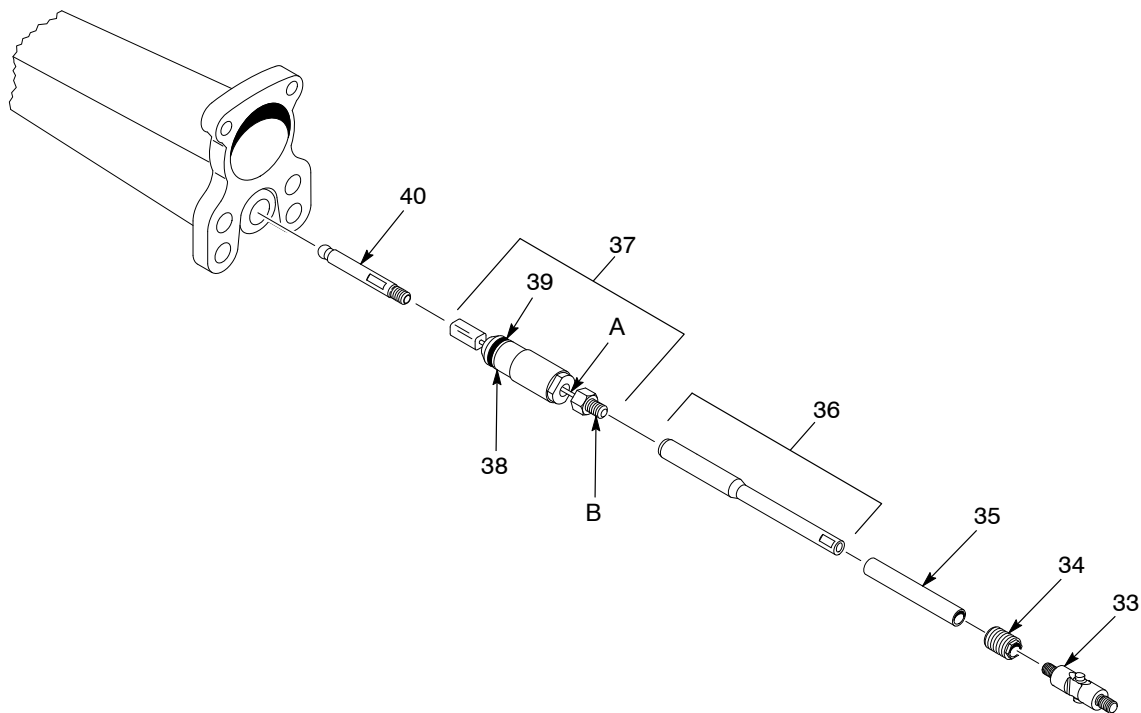

Figure 7-5 Ball Tip and Packing Cartridge Replacement
1. See Figure 7-5. Holding the flats on the pull shaft (36), unscrew the puller link (33).
2. Push the pull shaft forward and unscrew the packing cartridge retainer (34) with the combination tool.
3. Pull the pull shaft out of the back of the extension to remove the pull shaft, packing cartridge (37), and sleeve retainer (35). Do not bend the packing cartridge wire (A).
1. See Figure 7-5. Apply a removable threadlocking adhesive to the threads of the puller fitting (B) and pull shaft (36).
2. Screw the pull shaft into the packing cartridge (37).
4. Apply thin coating of dielectric grease to the outside of the sleeve retainer then slide the sleeve retainer (35) over the pull shaft and push down over the fluid bores.
5. Generously lubricate the end of the pull shaft and the inside of the packing cartridge retainer (34) with MagnaLube G or an equivalent PTFE-based lubricant.
9. Apply a removable threadlocking adhesive to the threads of the puller link (33) and screw the puller link onto the pull shaft.